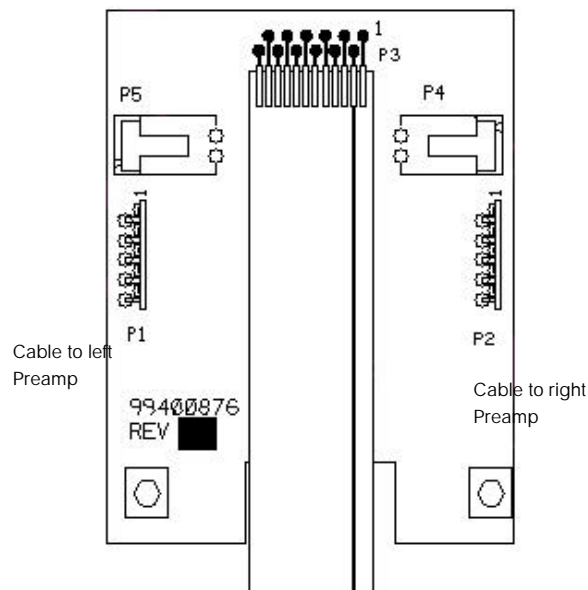

Figure 7-4-1
6. Use a DVM to measure the outputs of the four channels of the pre-amp. A convenient location to measure these are at connector P1 and P2 on the A/D PCB (Refer to figure 7-4-1). Place the ground lead on the power supply chassis and measure the output of pins 2,3,4, and 5. Typical readings are 1 to 4 volts with the lamp on and about 0 with the lamp off refer to table 7-1 below.
6. Measure the lamp voltage between pins 1 and 2 on both connector P4 and P5 (Refer to figure 7-4-1). The unloaded voltage should be between +5.8 VDC and +6.24 VDC.
8. Measure the voltages at pin 7 of connectors P1 and P2 (Refer to figure 7-4-1), voltages should be 4.95 VDC to 5.05 VDC.
9. Measure the voltages at pin 8 of connectors P1 and P2 (Refer to figure 7-4-1), voltages should be -5.2 VDC to -4.84 VDC.